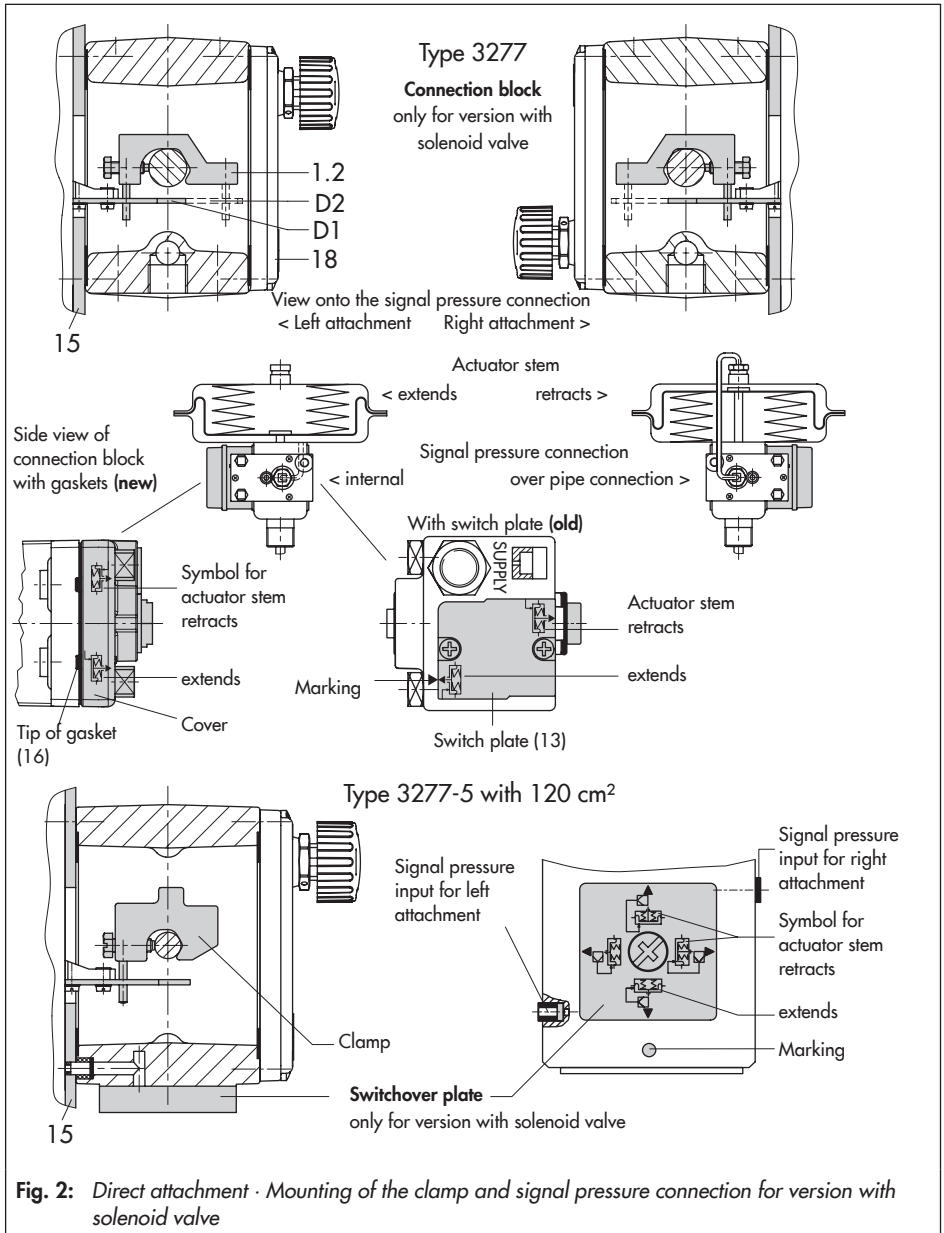

Fig. 2: Direct attachment · Mounting of the clamp and signal pressure connection for version with solenoid valve
1. Make sure that the tip of the gasket (16) projecting from the side of the connection block (Fig. 2, middle) is positioned to match the actuator symbol for the actuator's fail-safe action "actuator stem extends" or "actuator stem retracts". If this is not the case, unscrew the three fastening screws and lift off the cover. Turn the gasket (16) by 180° and re-insert it.
Table 1: Mounting kits for direct attachment (see Fig. 2 on page 11)